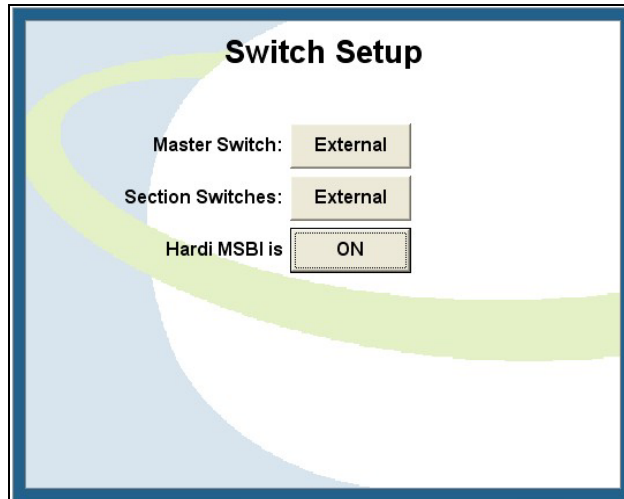

Figure 6-11 Switch Setup Window
- 8) Select External in both Master Switch and Section Switches. If the MSBI is connected to a Hardi controller, then select Hardi MSBI is ON as shown in Figure 6-11.